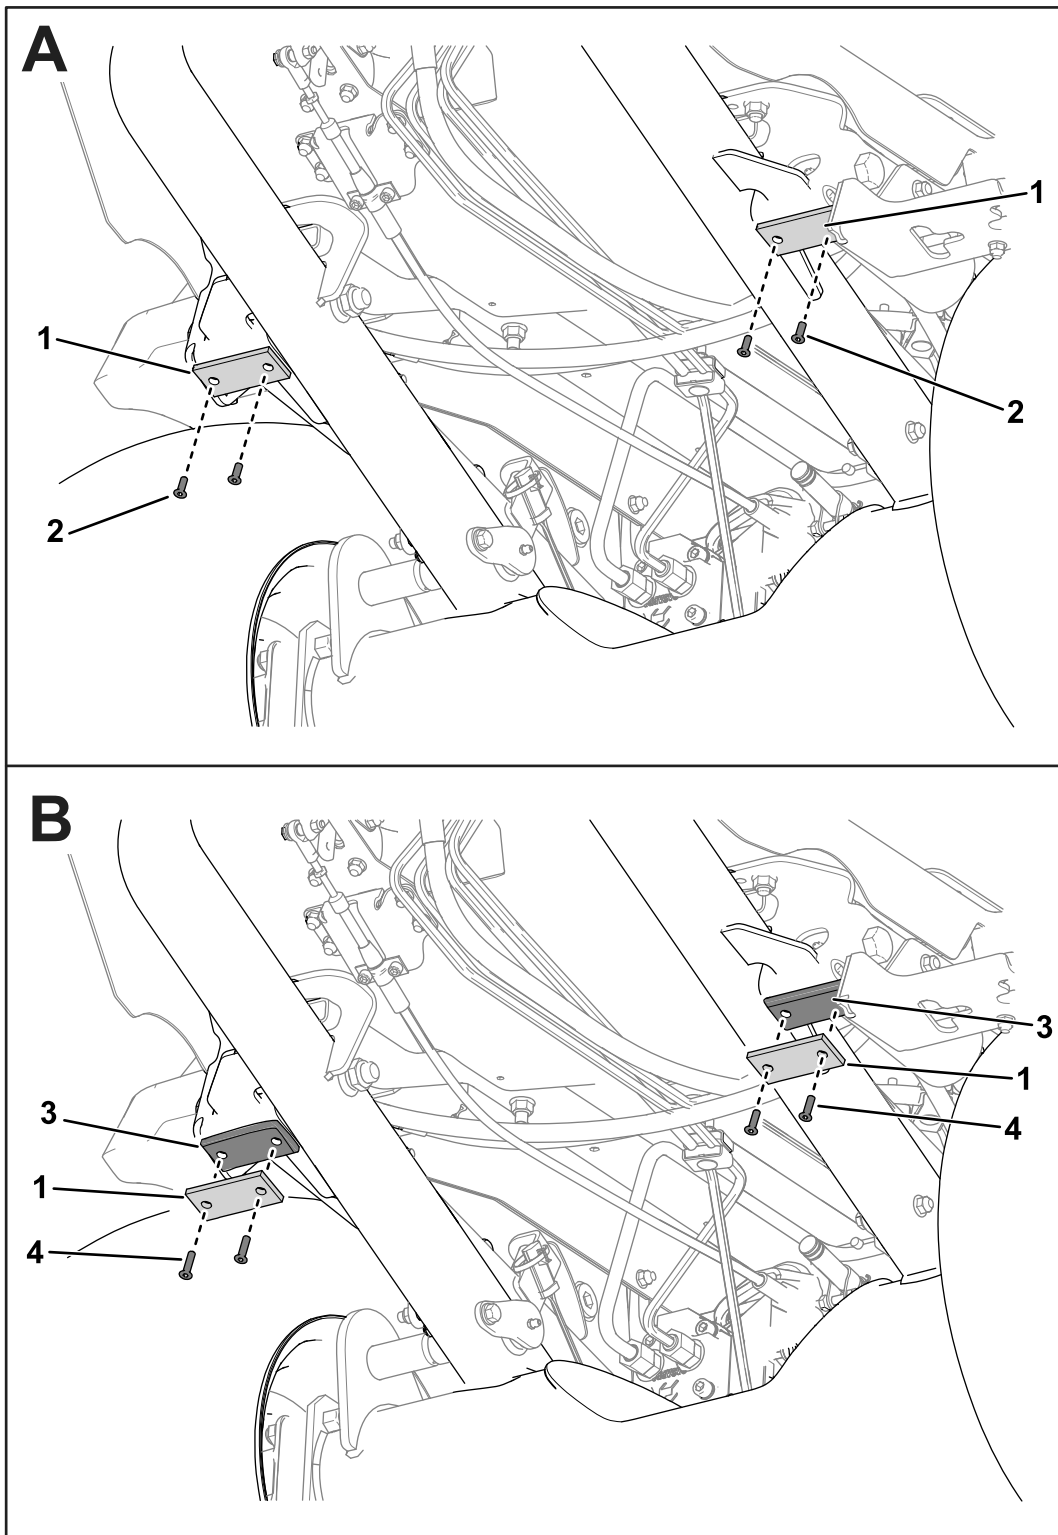

Figure 17
- Under the front chassis, remove the existing screws (1/4 inch) and rubber pads from the chassis (Figure 17).
- Use the new screws (1/4 x 1-1/4 inch) to secure the spacers and rubber pads to the chassis (Figure 17).